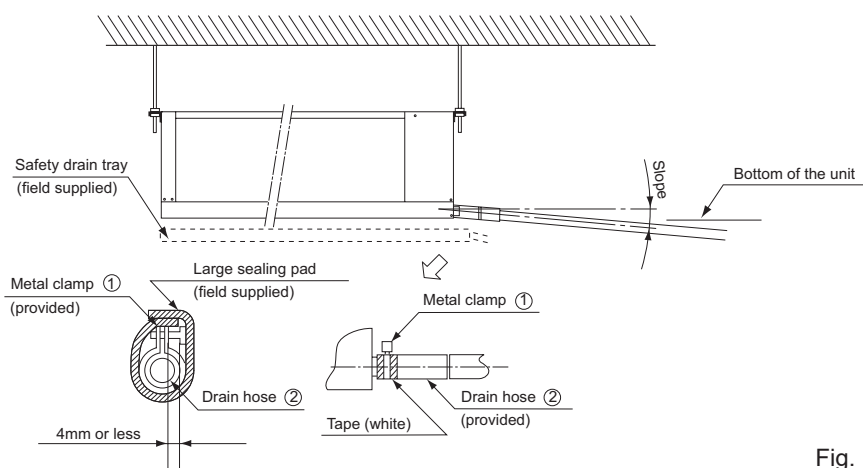

Fig. 11
- Use the provided drain hose ② and clamp ①. (Fig. 11)
- Insulate the metal clamp with a field supplied sealing pad (Fig. 11)